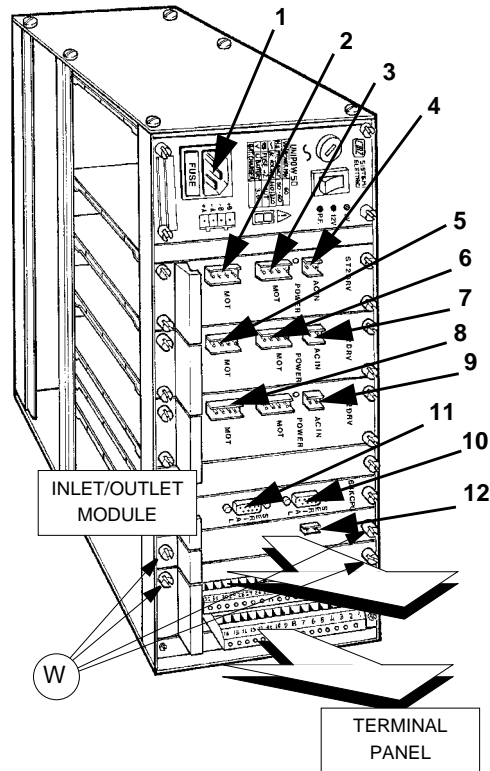

Fig. 40
- 5) loosen the four screws (W) securing the module (it is not necessary to remove them) (fig. 40).
- 9) secure the new module with the four screws (W) (fig. 40) and re-connect wires 2/3/4/5/6/7/8/9/10/11/12 and plug 1.